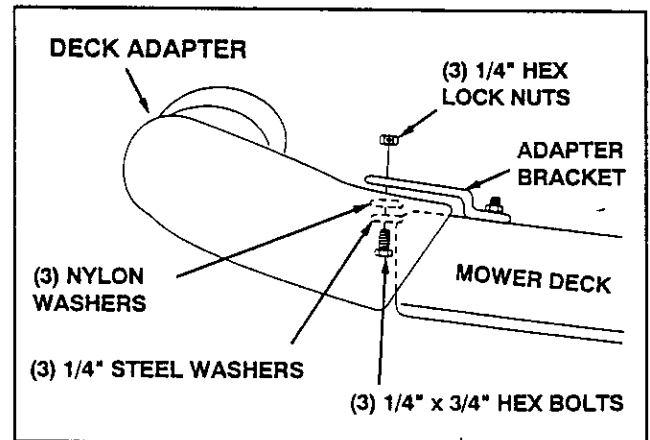

FIGURE 33
- With deck adapter positioned correctly over the discharge opening, use the adapter bracket as a template and drill three 9/32" diameter holes in the top of the deck adapter. See figure 33.
- Bolt deck adapter to bracket using three 1/4" x 3/4" bolts, nylon washers, 1/4" flat washers and 1/4" lock nuts. Nylon washers should be against the inside of the deck adapter. See figure 33.